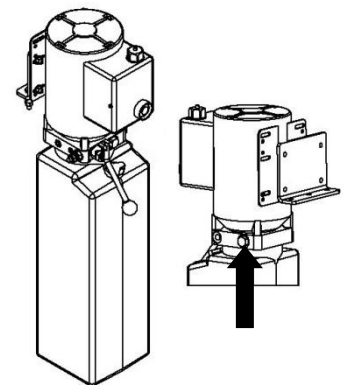

FIGURE 25 : SAFETY SEAL
- SAFETY SEAL ON PRESSURE REGULATOR CAP. SEE **FIGURE 25**.